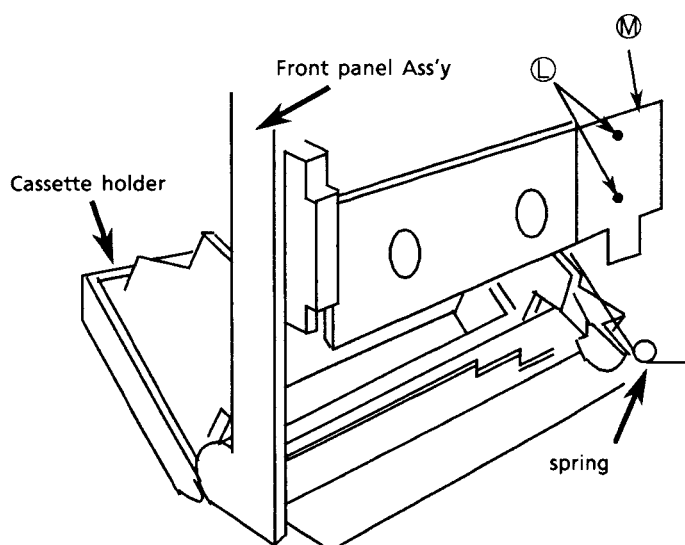

Fig 7
2. Remove the 2 screws ⑤.
3. Remove the ⑥.
4. Remove the spring hooked on the cassette holder (Fig 7).